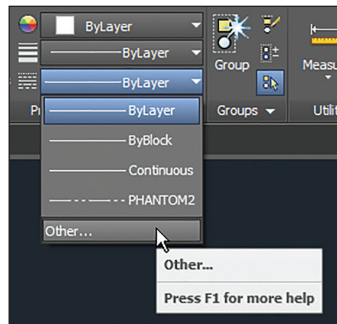

FIGURE 6.19 Accessing other linetypes
1. Open the Linetype drop-down menu in the Properties panel and select Other at the bottom of the menu (see Figure 6.19).